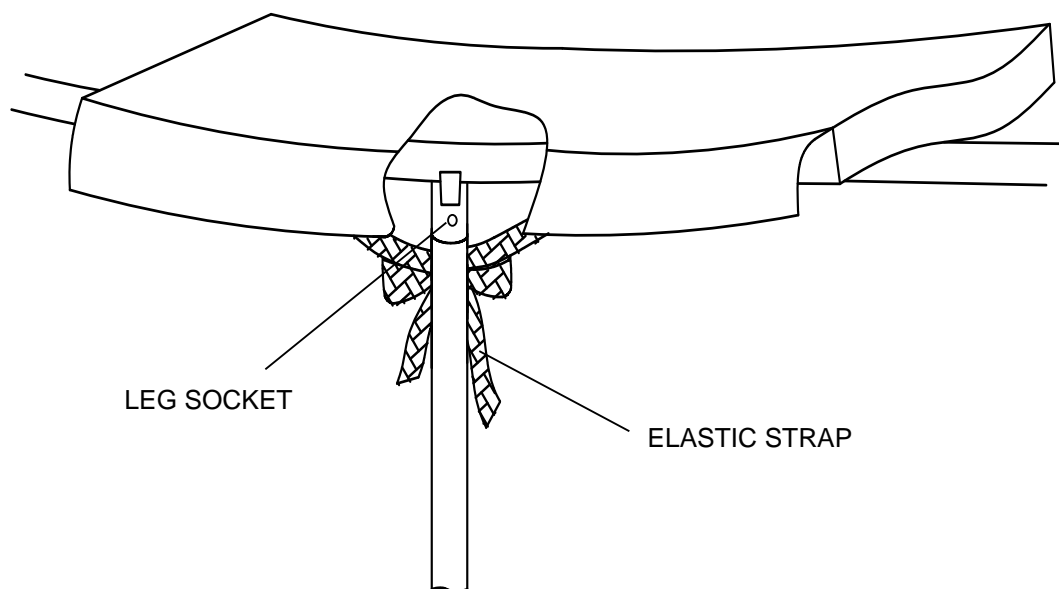

FIGURE 13
- A. Lay the Frame Pad (# 2) over the trampoline so that the springs and steel frame are fully covered. Please ensure that the Frame Pad covers all metal parts. Line up the elastic straps with the leg sockets. Wrap the elastic straps behind the leg sockets and tie together as shown in FIGURE 13.